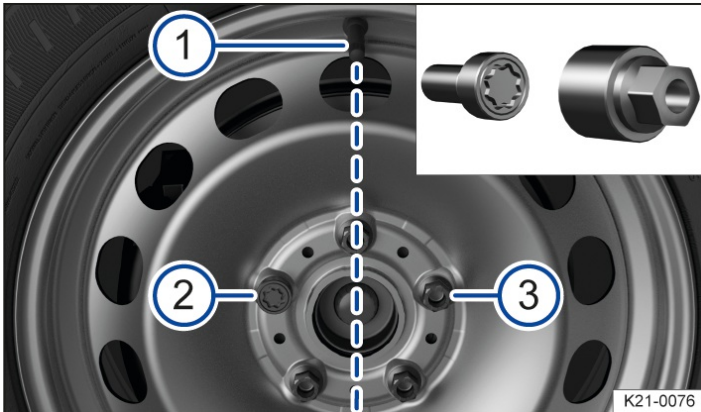

Fig. 2 Correct position of the anti-theft wheel bolt.
On wheels with a wheel cover, the anti-theft wheel bolt must be screwed in at position → *Fig. 2* (2) or (3) according to the position of the tyre valve (1). The wheel cover can otherwise not be fitted.